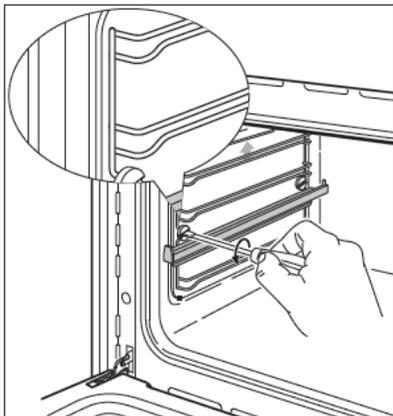

Fig.17 Removing the lower oven side racks and catalytic panels (some models only)
The catalytic panels are covered with a special microporous enamel which absorbs and does away with oil and fat splashes during normal cooking over 200°C. If, after cooking very fatty foods, the panels remain dirty, heat the oven on maximum for an hour to an hour and a half, and they will self-clean. The side panels are reversible. Make sure that you replace them with the arrow up, and on the correct side. To remove the side catalytic panels you first need to unscrew the side racks. See Fig. 17.
When you replace the panels, make sure that the arrows are pointing upwards. Then screw the side racks back onto the oven wall. Ensure they are the right way up (Fig. 17).
- 1 Remove the side racks by unscrewing the fixing screws (Fig. 17).
- 1 Screw the side racks onto the oven wall. Ensure they are the right way up (Fig. 17).